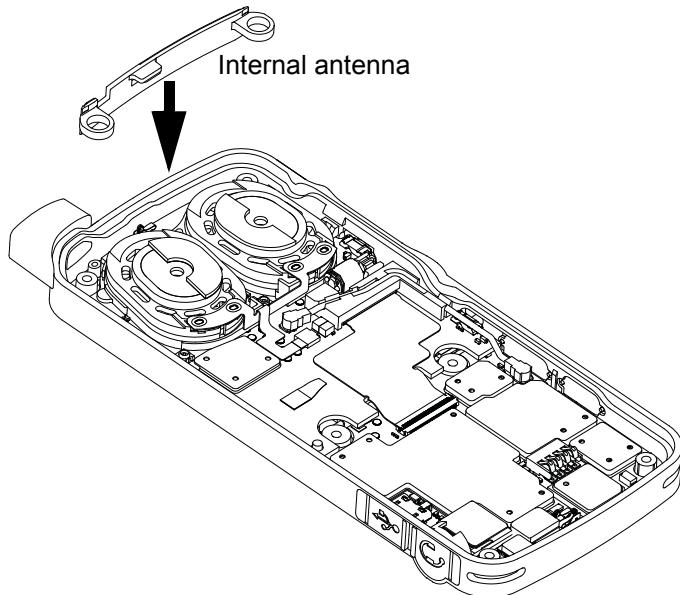

Figure 5-27. Internal antenna reassembly
1. Insert the internal antenna by using tweezers as shown in Figure 5-27.